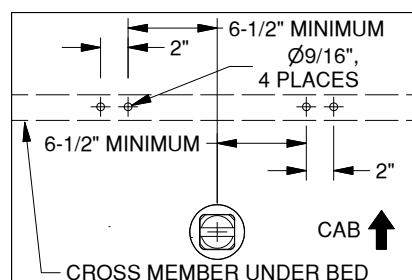
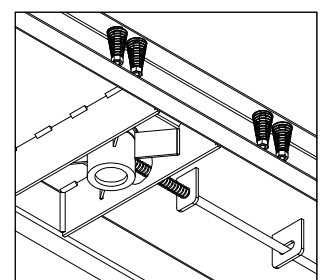

Figure 8
Figure 9
- 5. Install safety chain loops.** Identify locations for the safety chain loops. The loops need to be placed a minimum distance of 6-1/2" on each side of the truck's center line. If using this kit with a B&W Flatbed Companion hitch, place the safety chain loops 9" from the center line. The loops need to be placed slightly ahead of the socket. Placing the holes in a truck bed cross member is ideal. Drill two 9/16" holes on 2" centers on each side of the socket assembly, see Figure 8. Drop the safety chain loops through the holes and attach a spring and lock nut to each leg. Tighten the lock nuts until they are flush with the bottom of the U-bolt, see Figure 9.